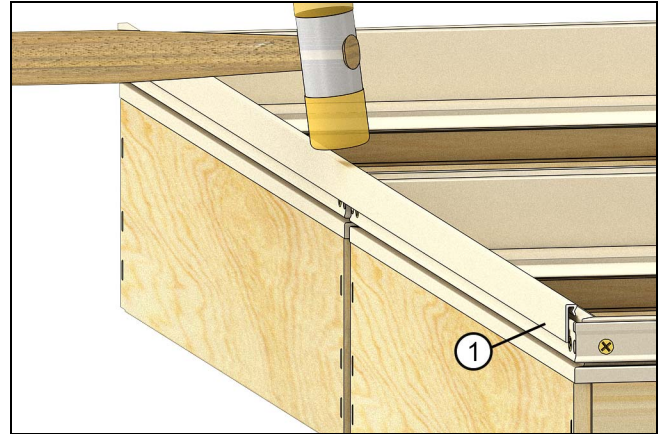

Figure 42
2. Apply the A148 frame trim to the assembly at each end of a non-standard (direct) mull. Pound the trim on with a plastic headed hammer or block of wood and framing hammer. See Figure 42.